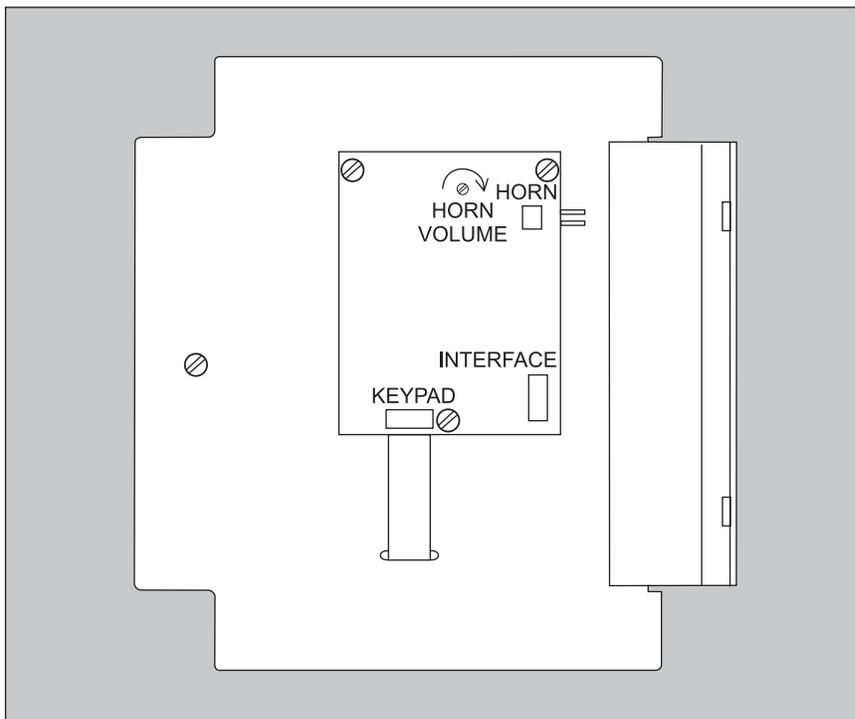

Figure 5: Adjusting the horn volume
- Use a small slotted screwdriver to turn the horn volume potentiometer located on the back of the display board, as shown in Figure 5.